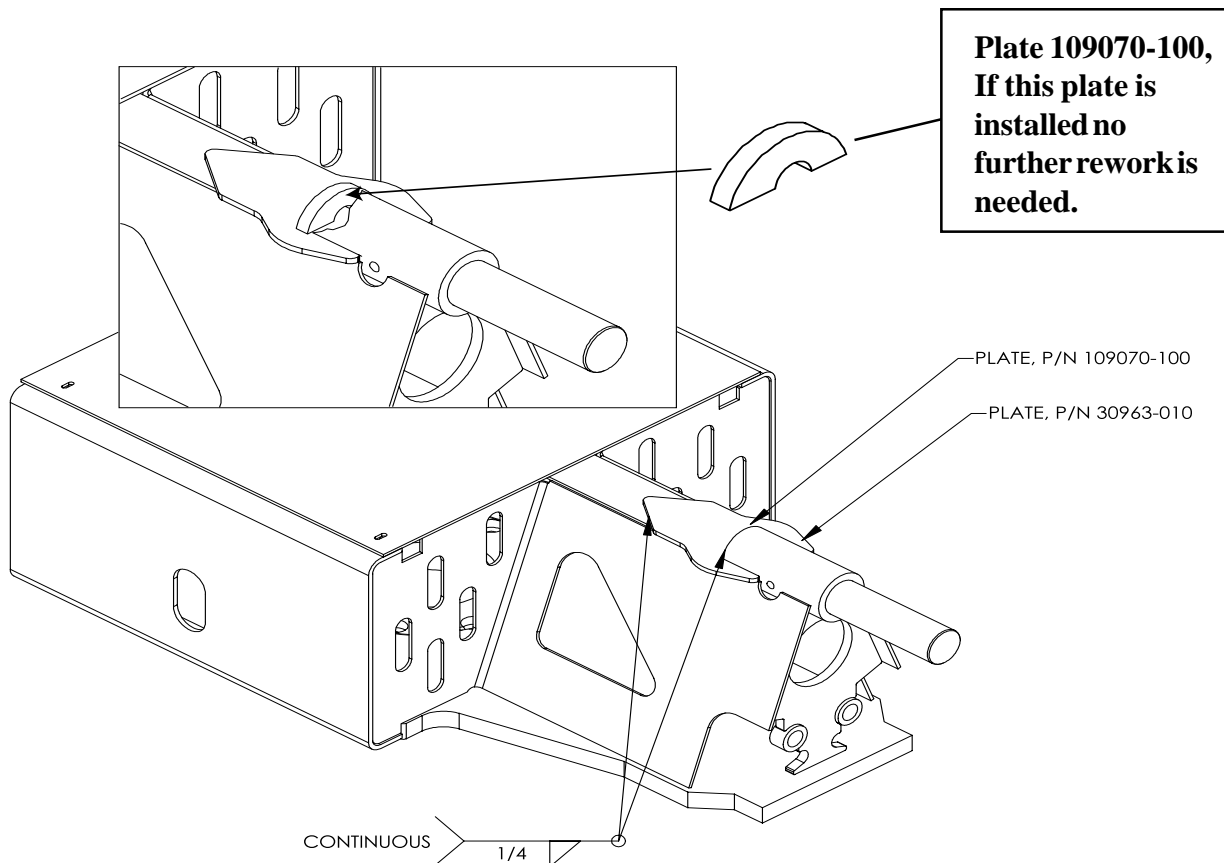

Figure2 Shown upside down for clarity.
BEFORE DOING STEPS 21-23 INSPECT THE MACHINE, IF ENFORCEMENT PLATE 109070-100(SEE FIGURE 2), WAS FACTORY INSTALLED NO FURTHER RE-WORK IS NEEDED
21. Attach the Chassis reinforcement plates (P.N. 109070-100 and 030963-010) per fig 2.